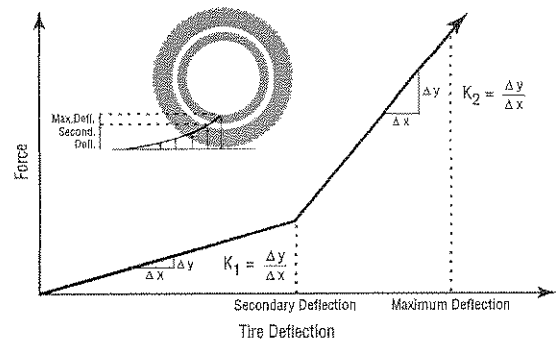

Figure 5: Force vs Tire Deflection curve.
- Broke a Rim? Occasionally a 3-D simulation, such as EDVDS, EDVSM or SIMON, will terminate with the message “Excessive Tire Deflection! (Broke a Rim?).” This typically occurs when a vehicle's tire strikes a curb. To understand why the simulation terminated (and this message is issued) requires a basic understanding of how 3-D simulations calculate radial tire force. These simulation models begin by calculating the earth-fixed coordinates of the center of the wheel, then the earth-fixed coordinates of the “bottom” of the undeflected tire (“bottom” is defined in the direction of the radial tire vector normal to the terrain). The distance between these two earth-fixed coordinate positions is the tire deflection. Multiply the deflection by the tire's radial stiffness and you have the radial force acting on the tire normal to the surface. Of course, the tire's radial stiffness is not a simple linear constant. In fact, it is a 2-stage linear spring with a knee at about 80 percent of the tire's section height (Figure 5).